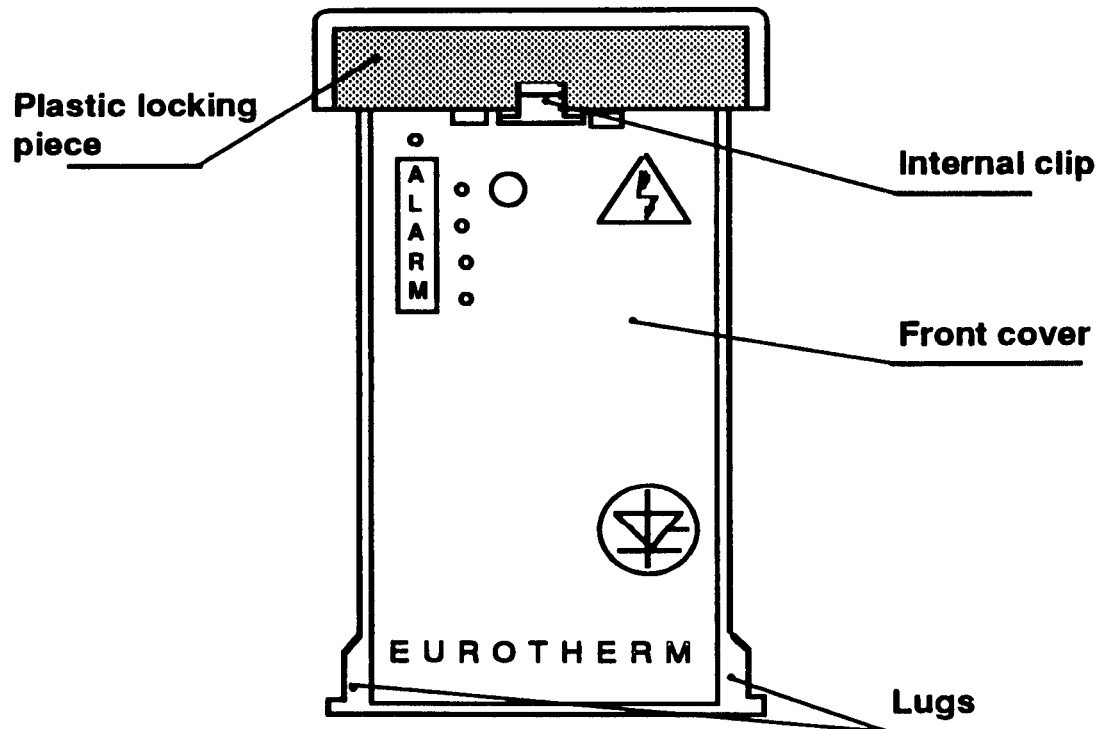

Figure 2.5. Front cover (40 to 125A)
- a. Insert a small screw-driver and push the internal clip. (see fig 2.5)
- a. Push the front cover assembly into position, ensuring that the lugs engage in the heatsink grooves on the front cover (see fig 2.5)
- Remove the front cover (see fig.2.5)